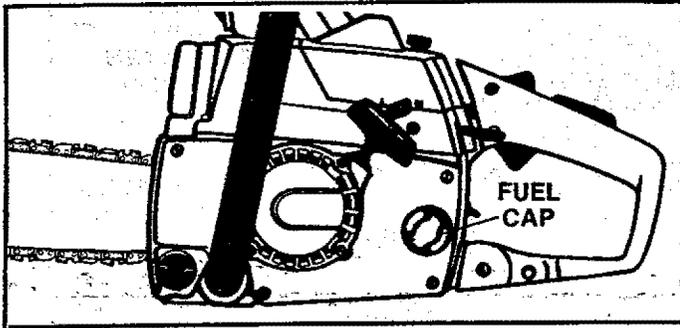

Figure 11
- e. Avoid over filling the fuel tank. Allow 3/4 inch for expansion. Tighten Fuel Cap securely. Figure 11.